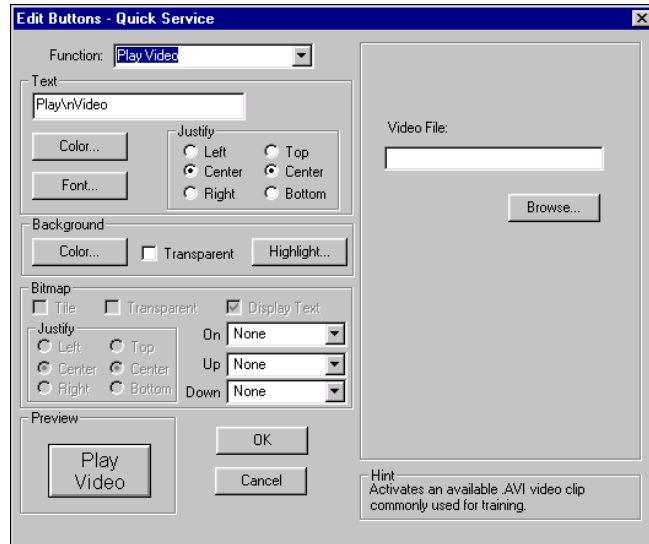

Figure 5-91 Play Video Button Function
1. Select **Play Video** from the **Function** drop-down list. An additional option displays, as shown in Figure 5-91: